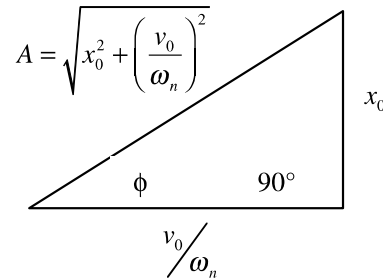

Figure 1.7
1.17 Using the drawing in Figure 1.7, verify that equation (1.10) satisfies the initial velocity condition.